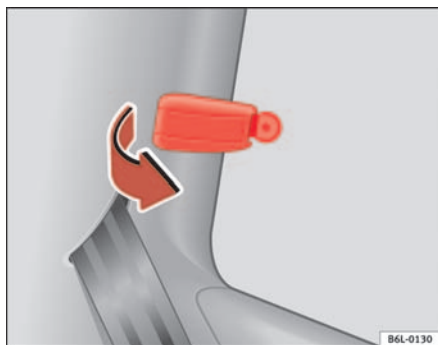

Fig. 52 Release lever for mechanical vent wing
- Pull the release lever ⇒ fig. 52 in the direction of the arrow and push it out at the same time until the lever engages. The lever inserts when the deflector is half open or fully open.